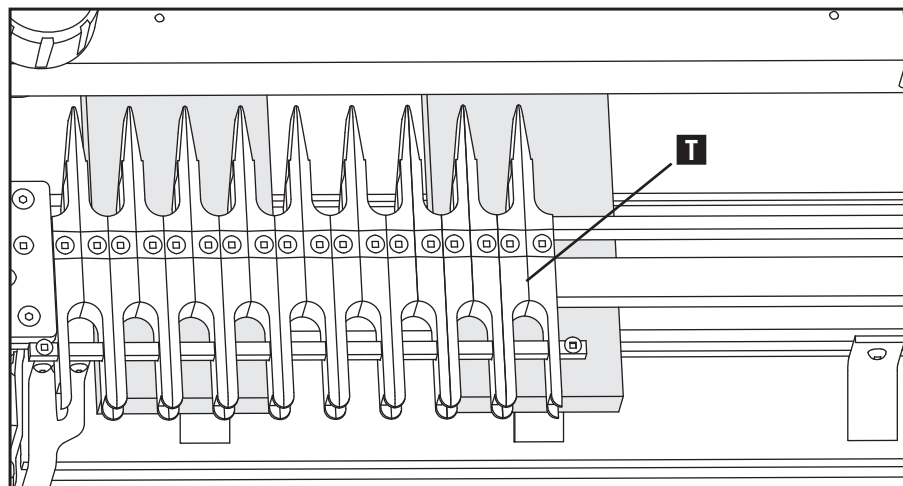

Fig. F8
6. Make sure similar thickness scrap (S) is in the other side and clamp the template down.
NOTE: For the variable-spaced finger template, be sure the scrap is supporting the end of the finger set (T) Fig. F8.